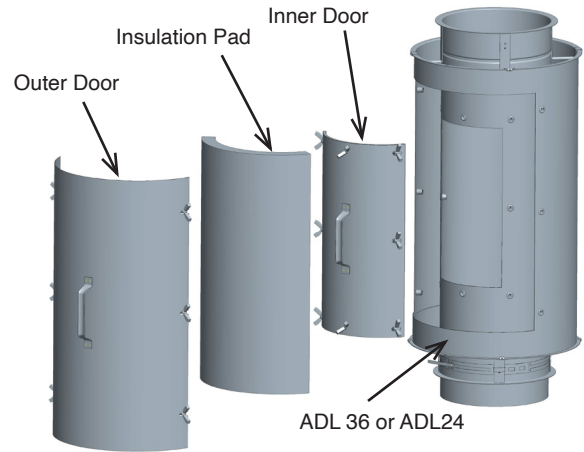

Figure 87: Step 4-5 of Removal for Inspection for the ADL
- 5- Remove the Inner cover and set it in a safe place. See Figure 87.